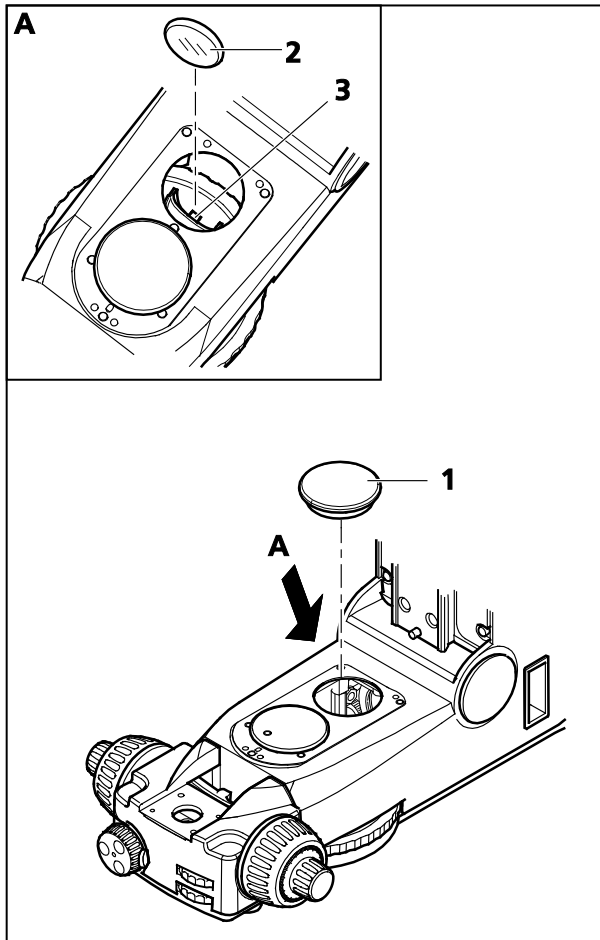

Figure 3-41 Replacing the filter in the transmitted light filter wheel
- Take off the cover plate (Figure 3-41/1) from the stand base.
- Pull the filter to be replaced (Figure 3-41/2) up and out of the corresponding position of the filter wheel (Figure 3-41/3) using a pair of tweezers.
- Insert a new filter into the filter wheel (Figure 3-41/3).
- Insert the cover plate (Figure 3-41/1), and press it down.